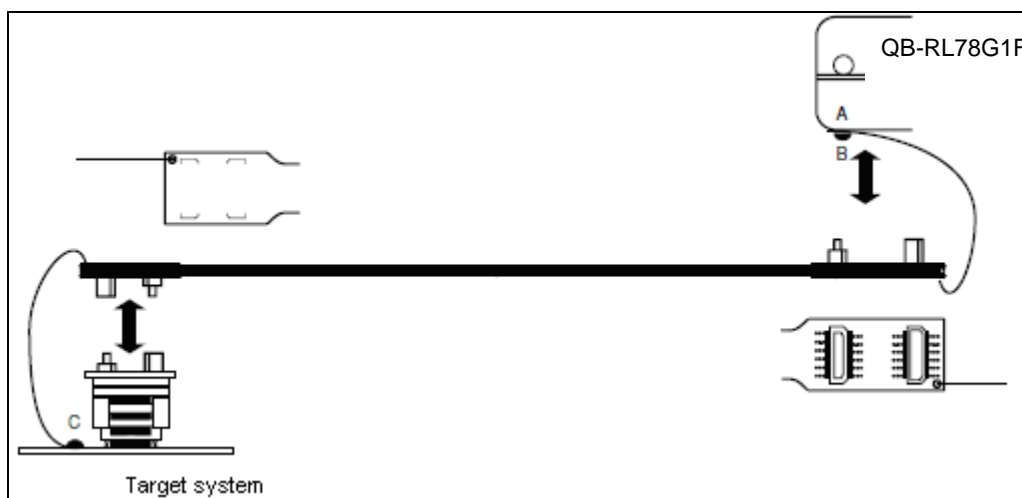

Figure 2-8. GND Wire
- <1> Fasten the GND wire on the QB-RL78G1F side of the emulation probe to the nut on the bottom of the QB-RL78G1F using a #0 or #1 Phillips precision screwdriver (connection of B to A in Figure 2-8).
- <4> Connect the GND wires on the target system side of the emulation probe to the target system GND. If a pin or screw is fastened to the target system GND, remove the transparent terminal cover on the end of the GND wire and fasten the Y terminal of the GND wire to the target system (C in Figure 2-8). If the GND on the target system is an exposed pad, likewise fasten the Y terminal to the pad on the target system by soldering (recommended soldering iron temperature setting: 300°C).